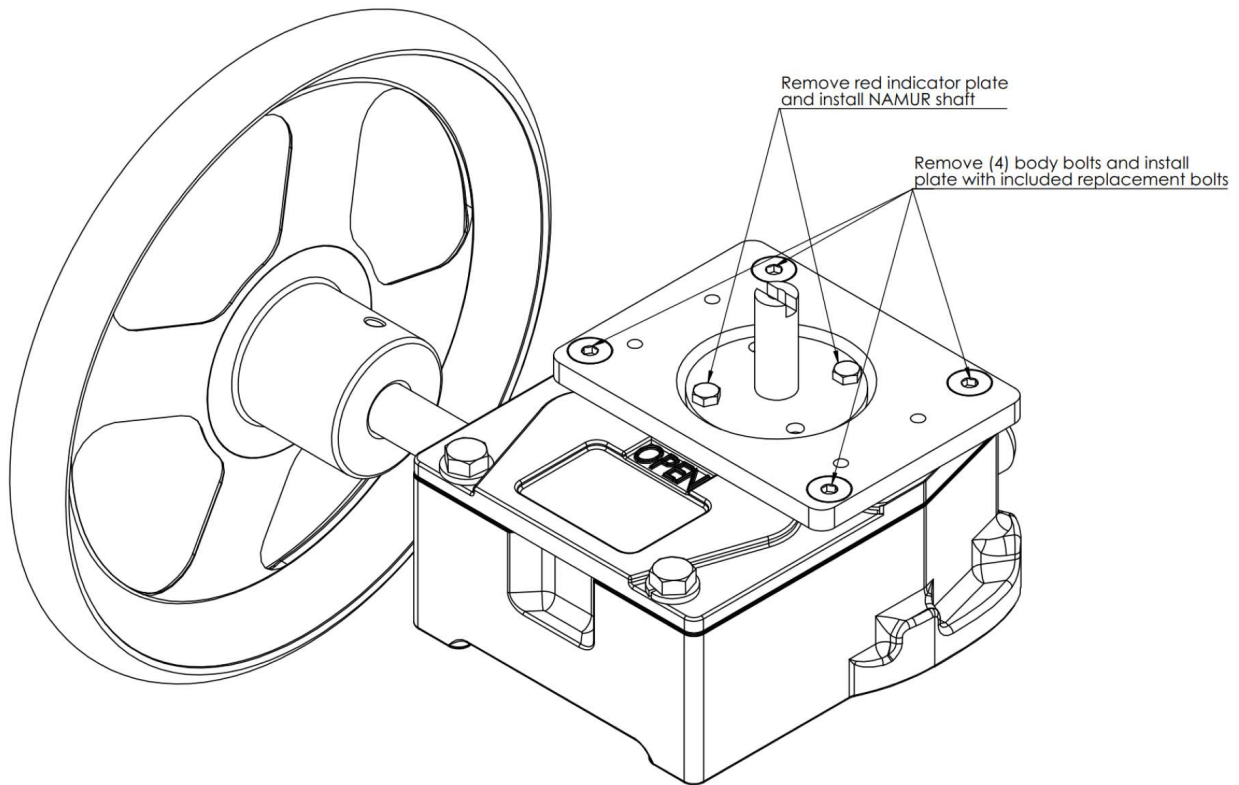

Fig. 2
2. Install the NAMUR shaft in the correct orientation with respect to the valve, gear, and limit switch shaft positions (Fig. 2).
5. Install the limit switch using the NAMUR mounting holes and shaft (Fig. 2).